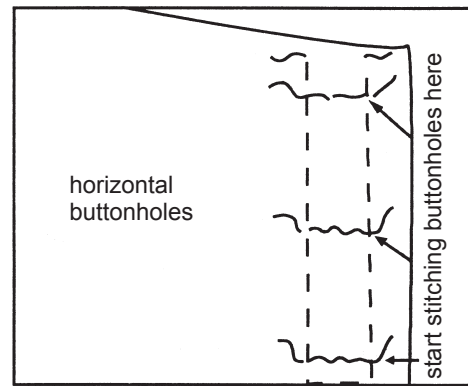
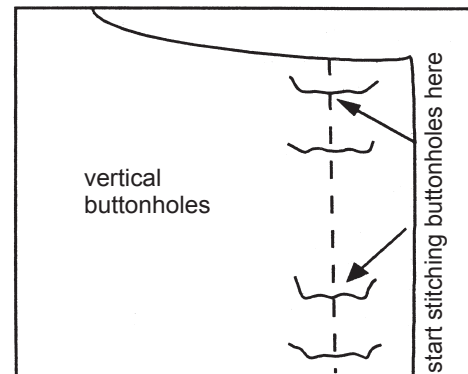

Figure 9
Figure 10
- To make sure buttonholes are accurately placed, begin stitching horizontal buttonholes at the marking closest to the garment edge (Figure 9); begin stitching vertical buttonholes at the marking closest to the upper edge of the garment (Figure 10).